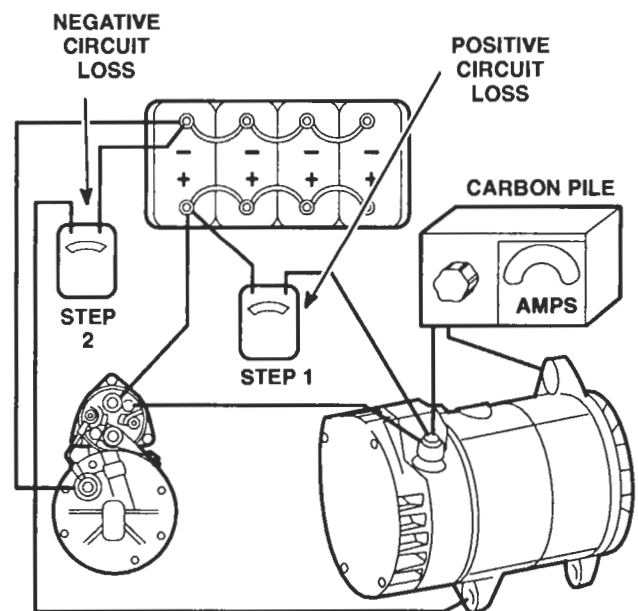

Figure 3. Charging Circuit Voltage Drop Test
21. With the carbon pile still connected, connect a low scale voltmeter (digital preferred) as shown in Figure 3.
22. Connect the red lead of the voltmeter to a battery positive terminal. Connect the black voltmeter lead to the alternator output terminal as shown in Step 1, Figure 3. (you may need a jumper wire to extend the voltmeter leads).
25. Connect the voltmeter leads to the negative side of the charging circuit as shown in Step 2, Figure 3.